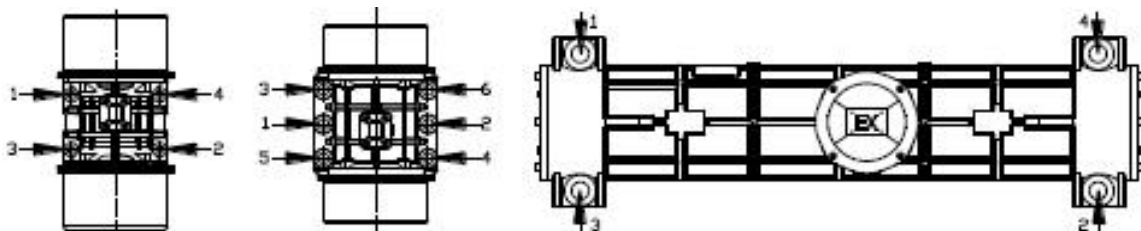

Figure 6-4. Mounting bolts tightening sequence
6.4.8 Four or six anchor bolts of vibratory motor should be selected with corresponding high-strength bolts of not less than grade 8.8 according to the aperture, which should be securely fastened with wrenches and adopt anti-loosening measures without any looseness. Tighten the mounting bolts in the order shown in Figure 6-4. If it is not tightened in the specified order, it may cause damage to the vibratory motor. Before installing the vibratory motor on the mounting plate, all bolts should be coated with thread sealant.